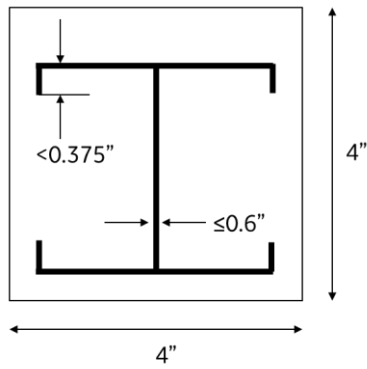

Figure 1. I-Beam Maximum Dimensions
- 3.2. Criteria for I-Beam Bridges. I-Beam bridges shall have a single web with a thickness less than or equal to 0.6 inches. The caps shall have a maximum thickness of 0.375 inches, and they do not have to be equal in length, width and thickness. The radius of the web-to-cap fillet shall be not greater than 0.5 inches. The cross section is permitted to vary along the length of the bridge and does not have to follow the centerline if the required dimensions are maintained. The maximum dimensions for I-Beams are shown in Figure 1.